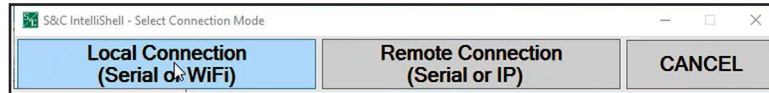

Figure 53. The IntelliShell Local Connection button.
STEP 1. Click on the **IntelliShell** button and click on the **Local Connection (Serial/Wi-Fi)** button. See Figure 53.